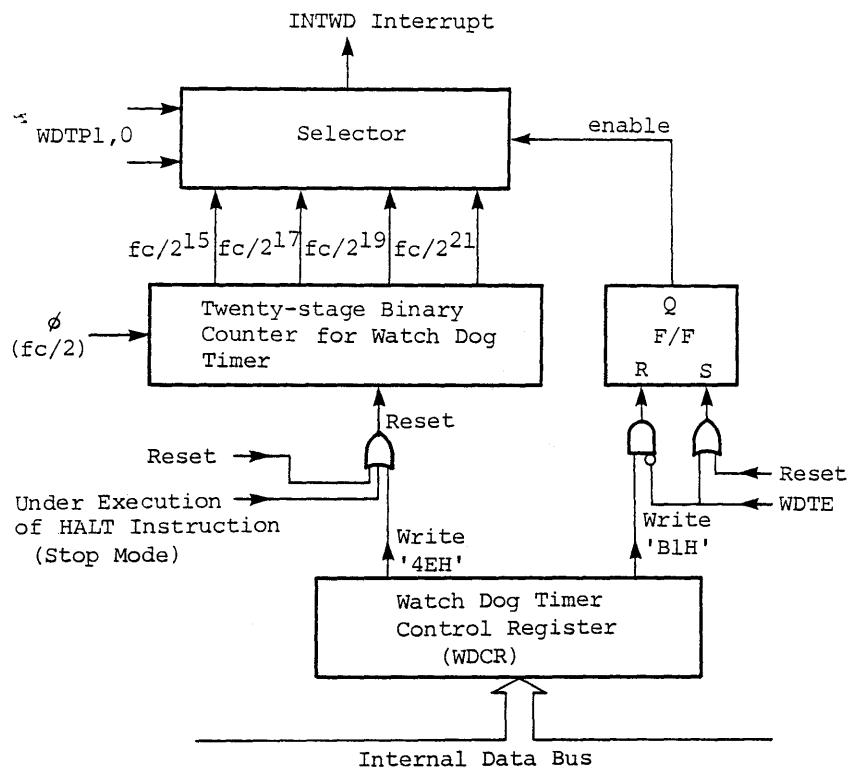

Fig. 3.10 (1) Block Diagram of Watchdog Timer
Fig. 3.10 (1) is a block diagram of the watchdog timer (WDT). The watchdog timer consists of a 20-stage binary counter (input clock: $\phi @fc/2$), a flip-flop that disables/enables the selector, a selector that selects one of the four output clocks generated from the binary counter, and two control registers.